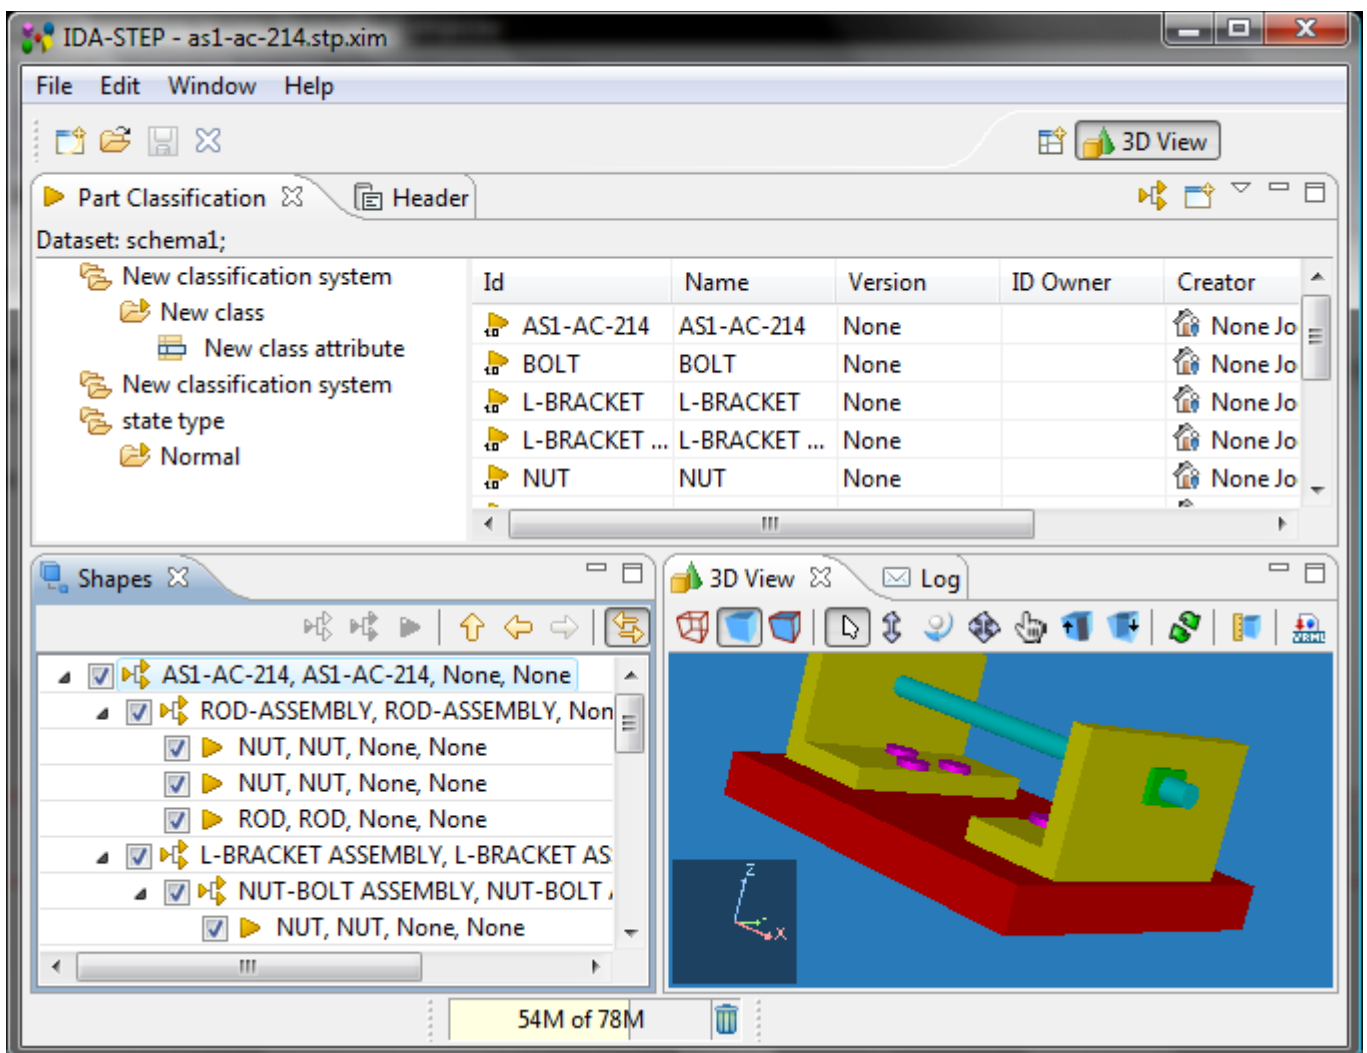

Figure 1. STEP file with data opened in IDA-STEP
- A particular data have to be opened/imported into IDA-STEP (see Figure 1).